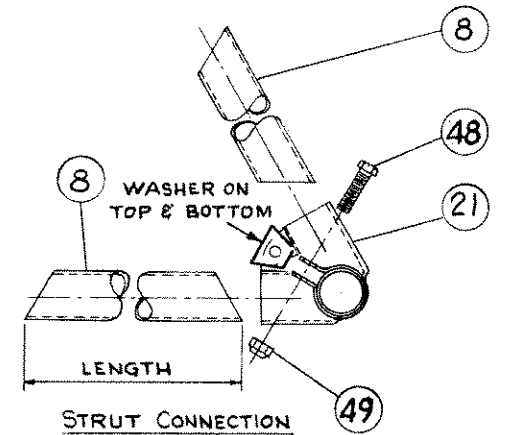

FIG. 8
8.) Lay out the cross struts in order of increasing length. Start assembling struts into bracing clips as illustrated in Fig. 8. Repeat sequence for remaining clips.
NOTE: Be sure washers seat in clip when tightening bolt 3 (Fig. 8).